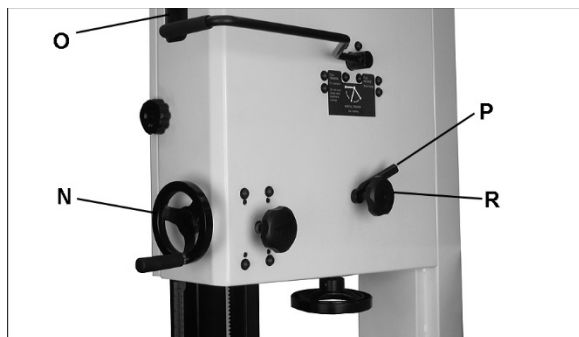

Figure 7-13
Refer to Figures 7-13 and 7-14.
3. Make sure blade guides and other parts of machine will not interfere with blade movement. Use handwheel (N) to lower guide post until you can see blade through tracking window (O, Figure 7-13).
8. Loosen locking handle (P, Figure 7-13) and slightly rotate tracking knob (R) with your right hand while continuing to rotate wheel with your left. Observe blade through tracking window. Rotating knob clockwise will cause blade to move toward rear edge of wheel. Rotating knob counterclockwise will cause blade to move toward front edge of wheel.